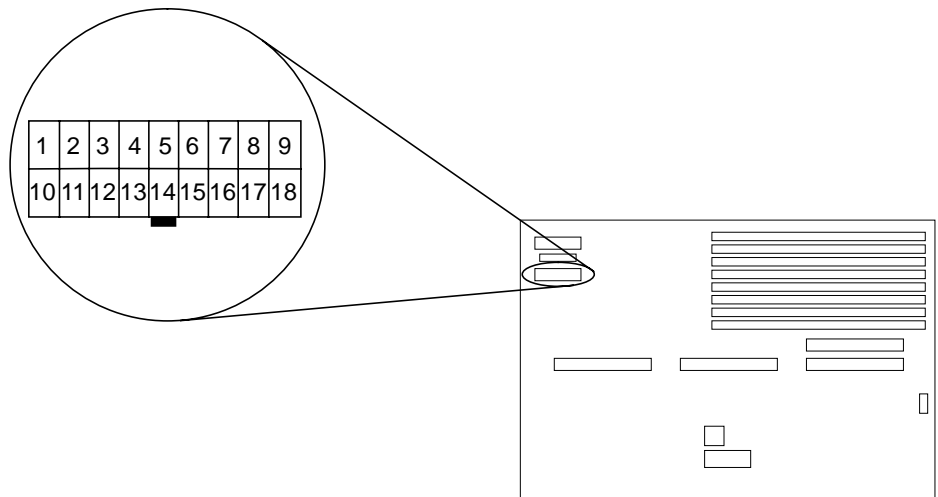

Figure 4-1 Power Supply Connector
1. Use a VOM (volt-ohmmeter) to check the power supply output voltages. Place the VOM negative probe on one of the logic ground pins in the connector, and test the +12V, -12V, and +5V power pins individually with the positive probe (pins 1 through 8). See Figure 4-1 and Table 4-2.